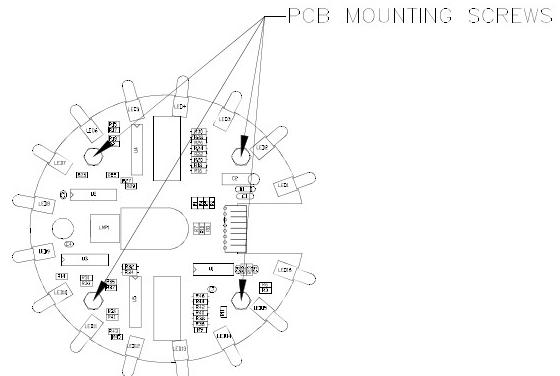

FIGURE 7
5. To remove the L.E.D. Chase Light PCB (p/n AFM-PCB-SAUCR16) and the Saucer PCB Insulator (p/n AFM-01-14210), remove the four PCB mounting screws (p/n FSM-083-HHS037C). (See Fig.7)